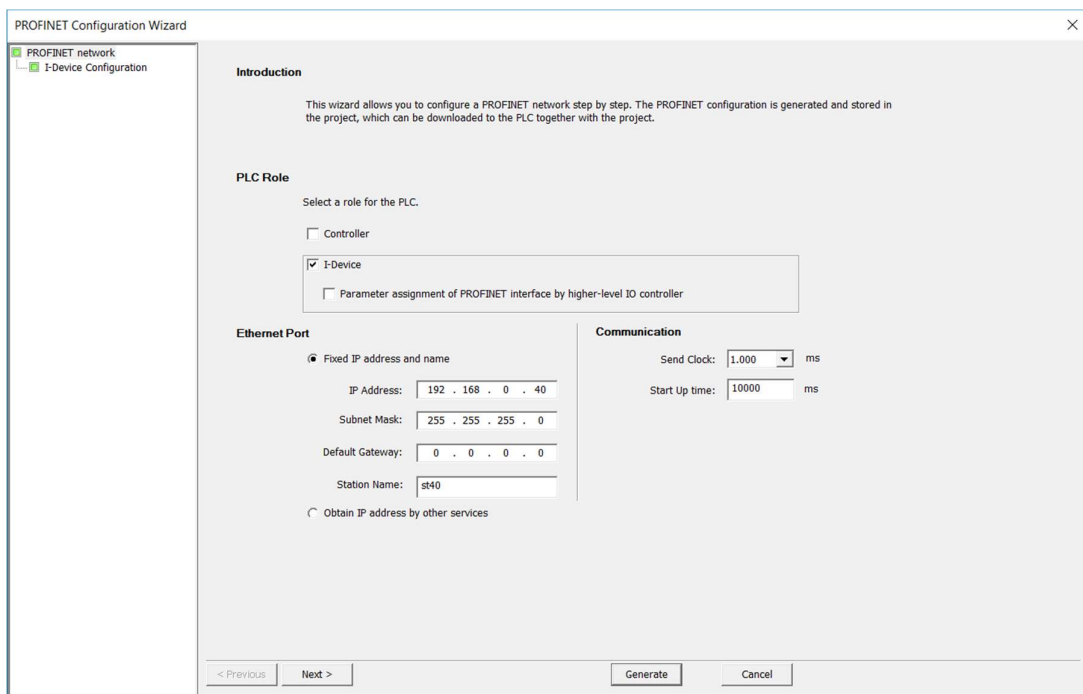

Figure 3. Set PLC role IP address and device name
- 3) Check the PLC role as a smart device; select a fixed IP address and station name for the Ethernet port: the IP address is 192.168.0.40, the subnet mask is 255.255.255.0, and the device name is st40. As shown in Figure 3.